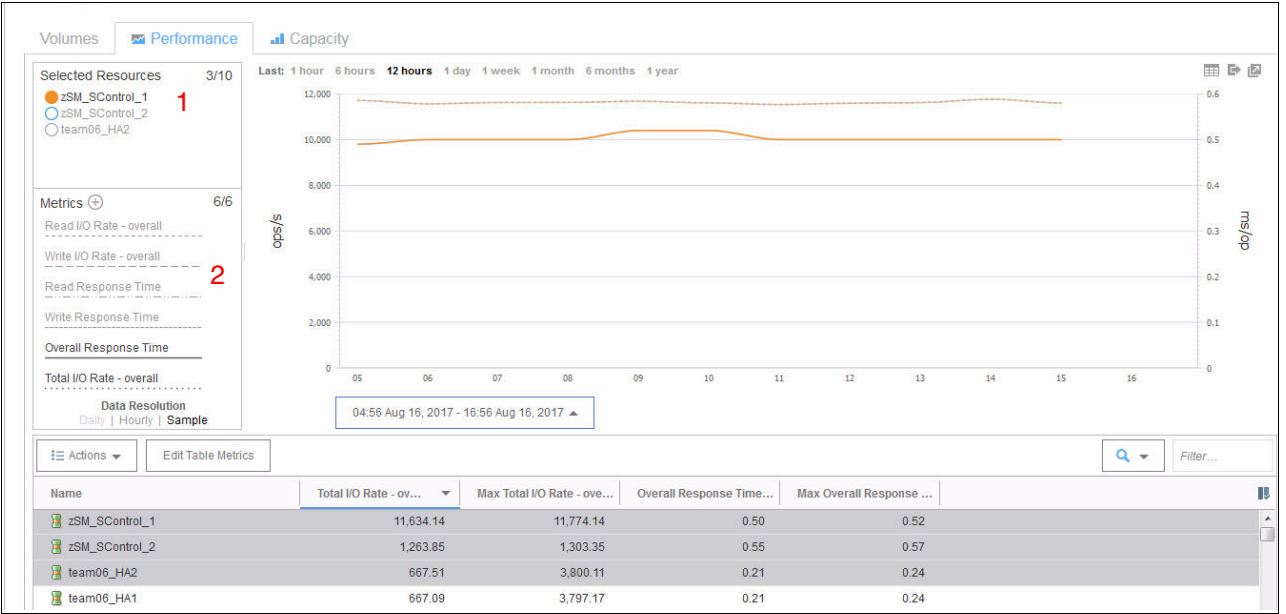

Figure 2-11 Volume performance chart in IBM Spectrum Control
Figure 2-11 shows the performance for only one volume, although three were initially selected, because two of them were deselected (1). The same behavior applies to the performance metrics where only two of the six metrics were selected to be displayed (2).